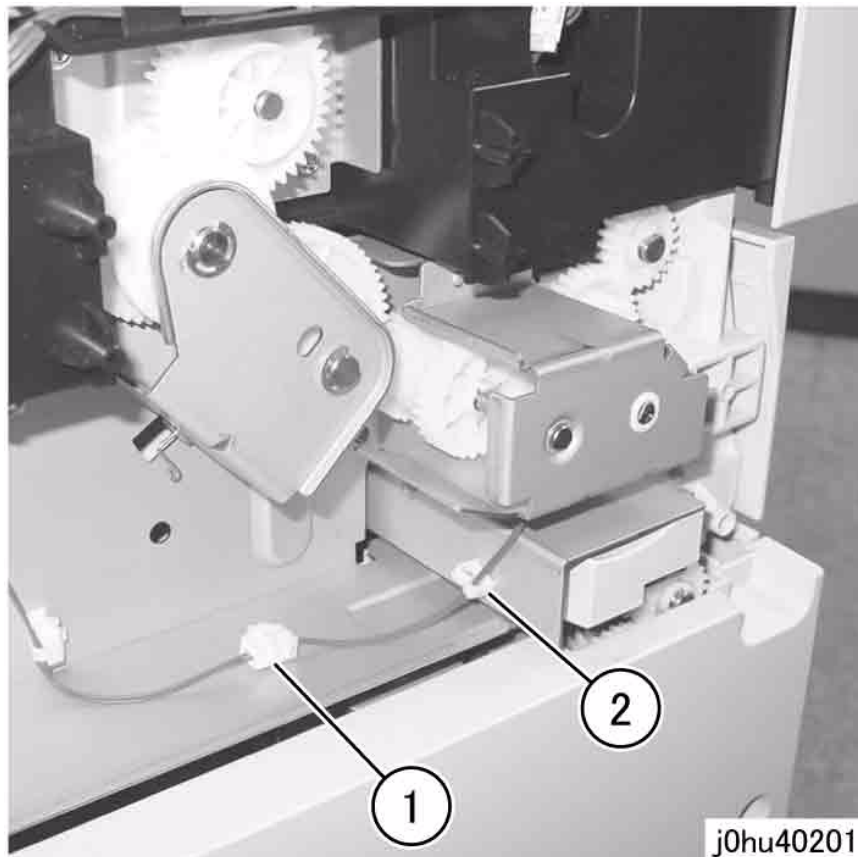

Figure 1 Disconnect the Connector
2. Disconnect the connector (Figure 1).